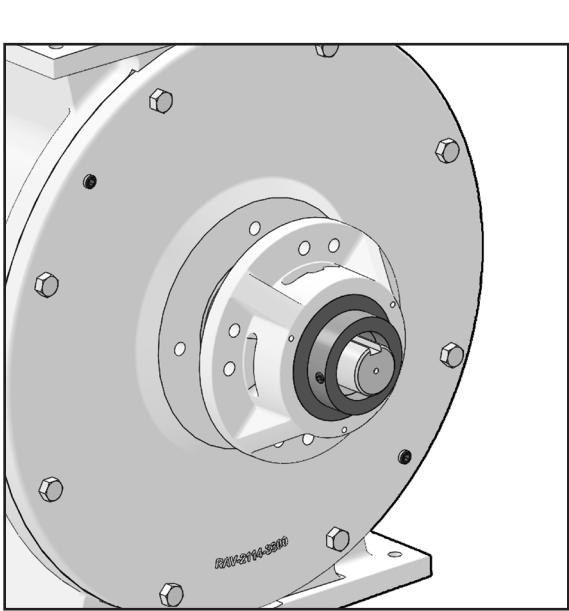

FIGURE 28
- 23. Slide cartridge gently by hand as far as possible onto rotor shaft (Figure 28).